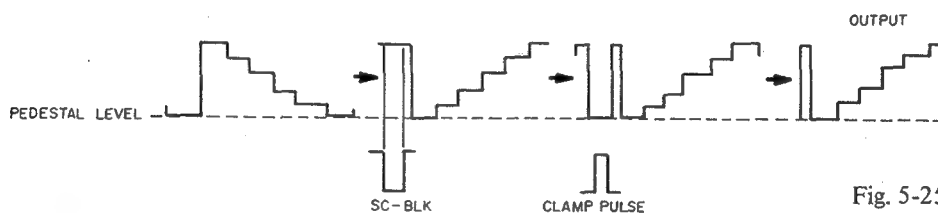

Fig. 5-25
Figure 5-25 shows the block diagram of the AGC circuit. If pin ③ and pin ⑫ of IC5 AN6022 were connected together directly, a standard output would be made available at "AGC Full Gain". In view of this a +6 dB amplifier (TR14 and TR15) is connected between these pins so that the AGC amplifier operates at -6 dB during NOR-